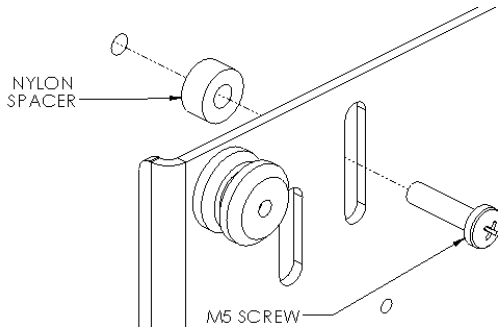
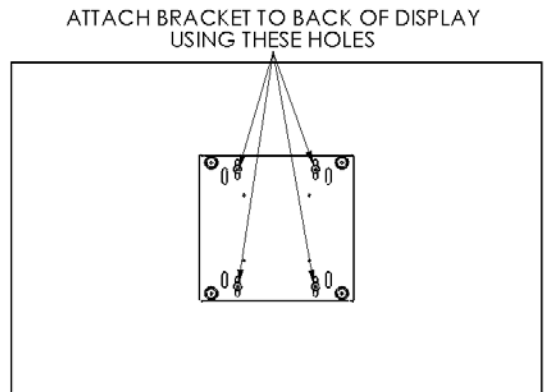

Figure 4
Figure 5
2. **Bracket Installation:** Attach bracket to back of display using the M5 screws and nylon spacers (see Figure 4 & Figure 5). The vertical slots of bracket can be used for any height adjustment that may be needed.